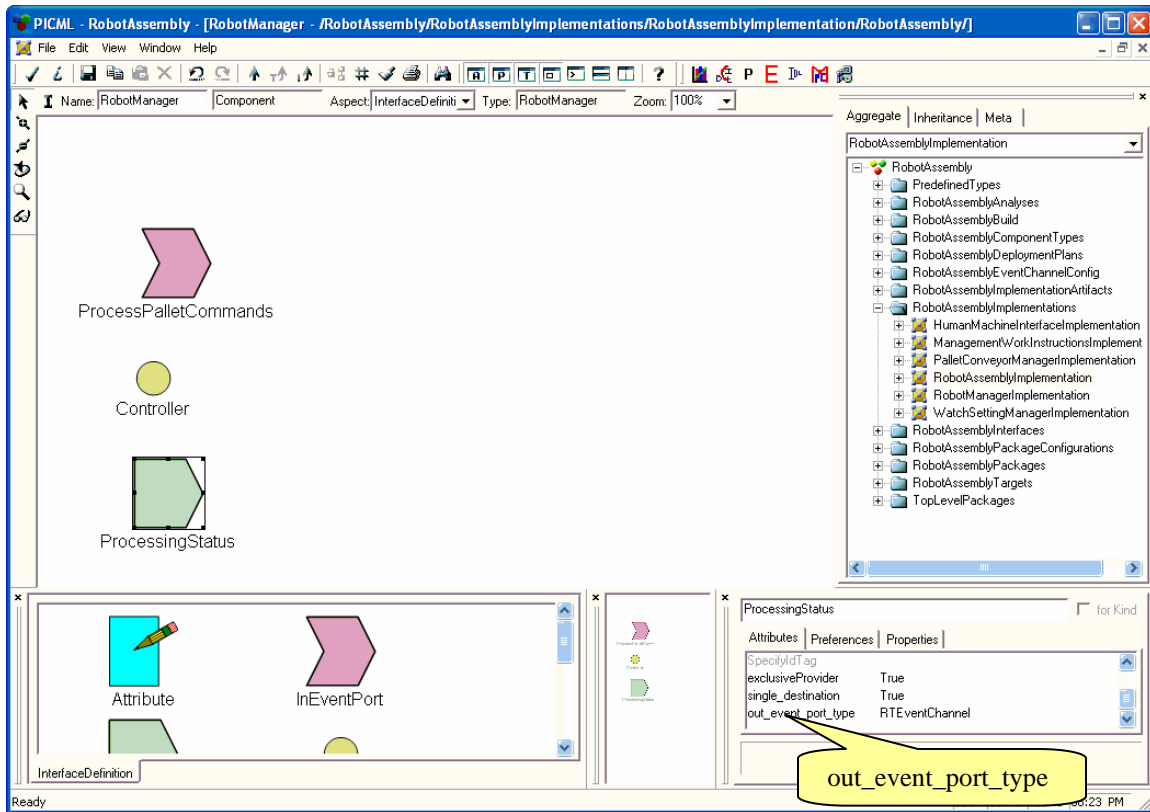

Figure 2: RobotManager Component Instance Inner View
**Step 2:** Identify the first event connection which you want to set up using the RT Event Service, and then double click the component icon which contains the event source as port, i.e., the component that contains the event publisher port or the event emitter port for the event connection you are interested in. For example, if you want to use the real-time event between component RobotManager and WatchSettingManager with the *ProcessingStatus* as the event port (as show on the above figure), then you double click the RobotManager component instance since it contains the event emitter port called *ProcessingStatus*. After you do this, you will see all the contained model elements of the RobotManager component as illustrated in Figure 2.